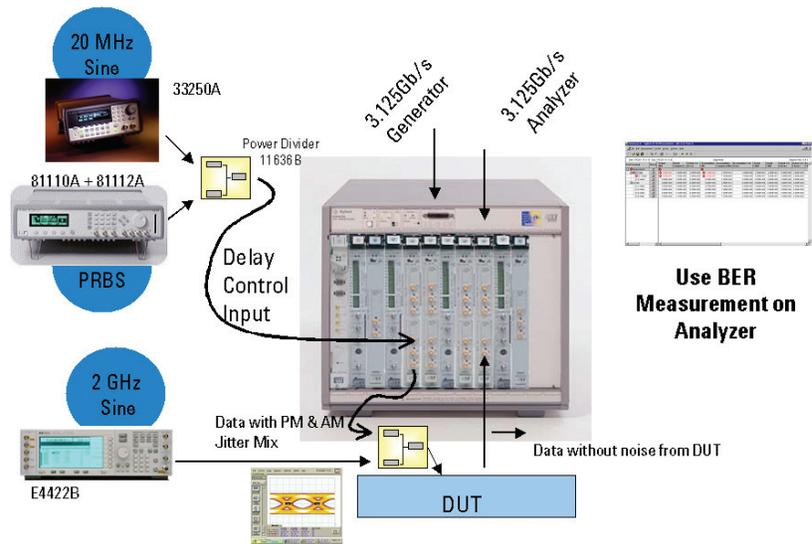

Figure 8: Stressed Eye Setup
Figure 8 shows the setup for Stressed Eye including edge displacement and amplitude noise (SI). The amplitude noise component is added to the data output with the help of a power divider.